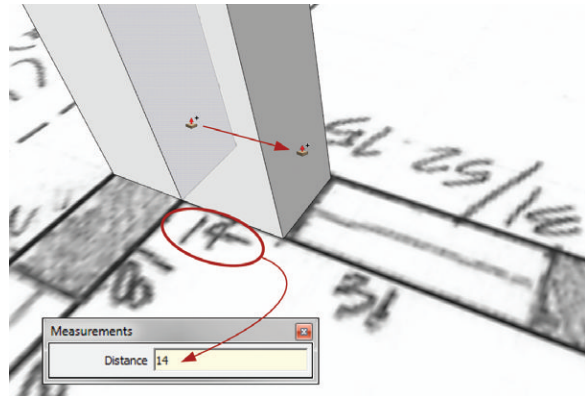
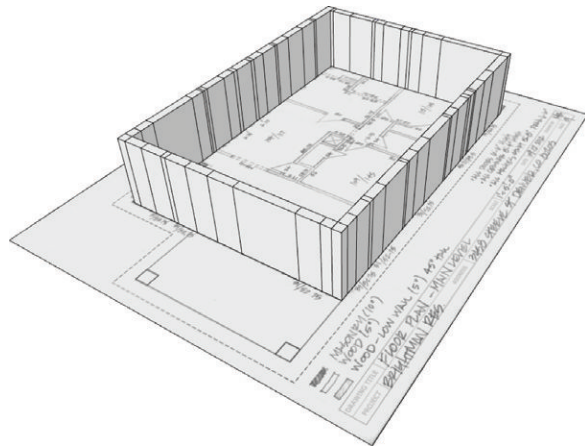

Figure 17.27 Extrude the plan horizontally using the Push/Pull tool. Read the dimensions of each section off of the field notes drawing.
Figure 17.28 Continue extruding the plan horizontally around the entire house and complete all the exterior walls.
3. Using the Push/Pull tool, extrude the plan horizontally (Figure 17.27, Figure 17.28).